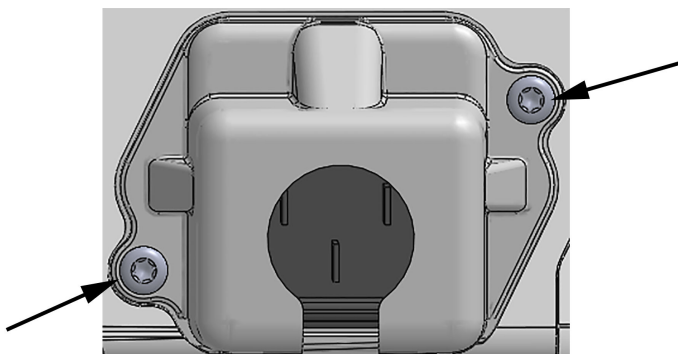

Figure 3-5: HemoSphere advanced monitor power entry cover - screw locations
1. If the power entry cover is already installed, remove the two screws (Figure 3-5 on page 71) that attach the power entry cover to the rear panel of the monitor.